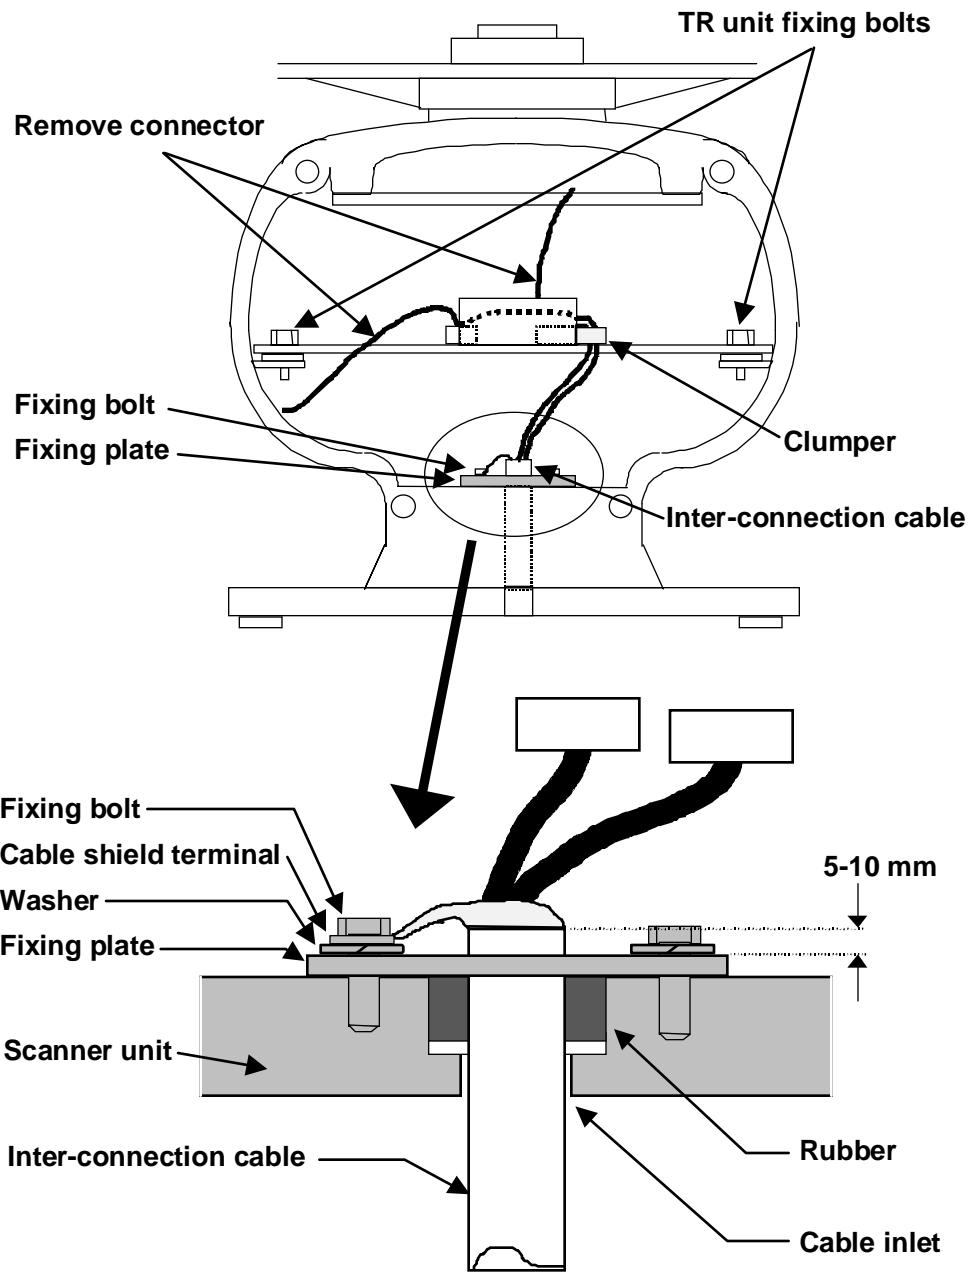

Fig.3-9 Fitting interconnecting cable
3.7.2 Interconnecting cable (RA42C Open scanner) (See Fig.3-9)
- ① Ensure that the radar is off. Connect the cable to the receptacle labeled "SCANNER" on the rear panel of the display unit.
- ② Use a T-wrench to remove the back covers of scanner unit.
- ③ Remove the two bolts securing the transceiver; pull out the transceiver after removing two connectors.(to Motor(X1), to Heading switch (X2))
- ④ Remove the four bolts securing the fixing plate at the cable entrance.
- ⑤ Remove the metal fixing plate, rubber seal and washer that secure the cable. Pass the cable through as shown in the diagram below; replace the above items and tighten the bolts.
- ⑥ Return the transceiver to its original position and secure it with the removed bolts.
- ⑦ Connect 7-pin connector to X11 and 9-pin connector to X12 of PCB. And connect two connector that removed at ③.
- ⑧ Refit the scanner covers.